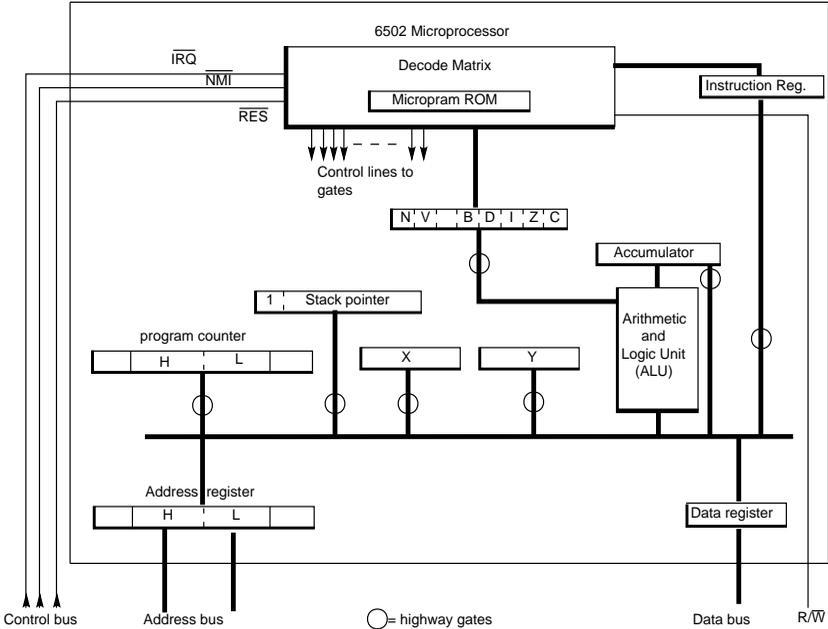

Fig 2.2. 6502 registers and highways
Figure 2.2 shows reasonable, but by no means complete, details of the paths between the various registers. Such paths within the microprocessor are often called highways because they ramify over the chip area to provide a kind of long distance communication.
This register has a supreme role. It is the only one capable of performing arithmetic processing. This is evident from Fig. 2.2 which shows that, in addition to the usual connection to the highway, there is a direct and exclusive link to the Arithmetic and Logic Unit (ALU). It is involved in transfers to and from memory and acts as interim data storage during arithmetic and logic operations. For example, during a simple addition of two numbers (ADC), the first number must pass to the accumulator and is then 'entered' to a holding register within the ALL]. The second number then enters A, the addition is carried out and the result sent back to A. Those used to scientific calculators in the Hewlett-Packard range will recognise the inherent Reverse Polish (RP) action.
In any microprocessor, some of the most important registers remain transparent (or at least translucent) to the programmer. That is to say, instructions are not provided which make direct reference to them. In fact, the more important a register, the less likely is the programmer allowed direct access. In the 6502, the unseen registers (refer back to Fig. 2.2) are the Program Counter (PC), the two address registers ADL, ADH and the instruction Register (IR).
Figure 2.2 shows the decode matrix. Its function is to accept the op-code held in IR, decode it, and finally output a pattern of bits on the various gate and timing controls. This pattern will be different for every step in the microprogram. If this function is analysed carefully, we may come to the conclusion that the decode matrix will behave like a miniature computer with a number of fixed programs inside. We can relate IR to the 'program counter'. The op-code is only the starting address of the relevant microprogram. The
'words' read out from the ROM are the bit patterns supplying the various register gates and controls. These patterns will vary for each step of the microprogram. The gate controls are all hard wired to the various registers. This wiring is omitted from Fig. 2.2 to prevent an already complex diagram from becoming incomprehensible.